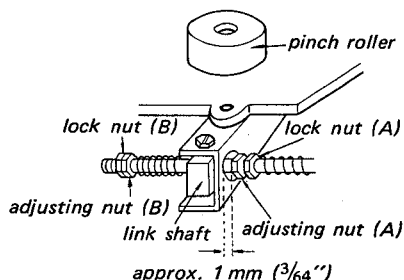

Fig. 3-1-4. Pinch roller pressure adjustment (1)
See Fig. 3-1-4 and 3-1-5. This adjustment should be made after the Reset Spring Housing Adjustment.
- (1) Remove the Reel Panel.
- (2) Set the unit to the play mode.
- (3) Adjust the adjusting nut (A) for 1 mm ($\frac{3}{64}$ "') clearance between the Link Shaft and the adjusting nut (A). See Fig. 3-1-4.